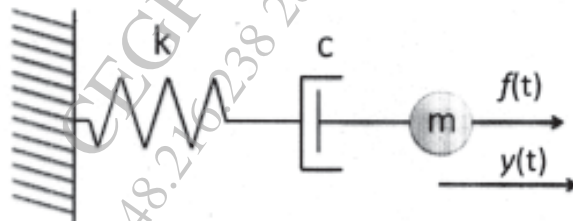

Figure 3
- Q8)** a) For the system in Figure 3, assume m = mass = 2 kg, k = stiffness = 4 N/m and c = damping = 0.3 Ns/m. Also, $f(t)$ = force input in N and $y(t)$ = displacement output in m. [10]